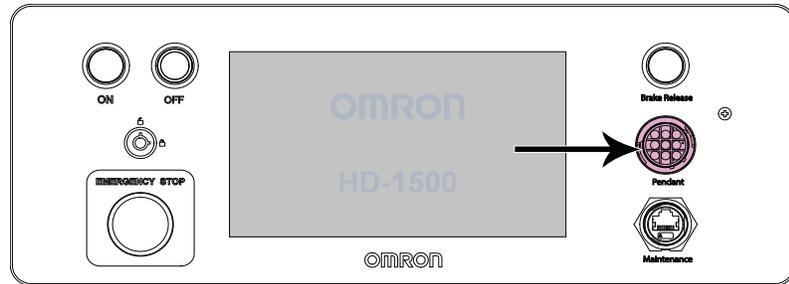

Figure 6-4. Pendant Port on the Operator Panel
The pendant port is available on the Operator Panel, located on the rear of the platform. See: Figure 6-4. .
A power cord connects the power supply box to the docking target, and transfers power ((C) in Figure 6-4.).